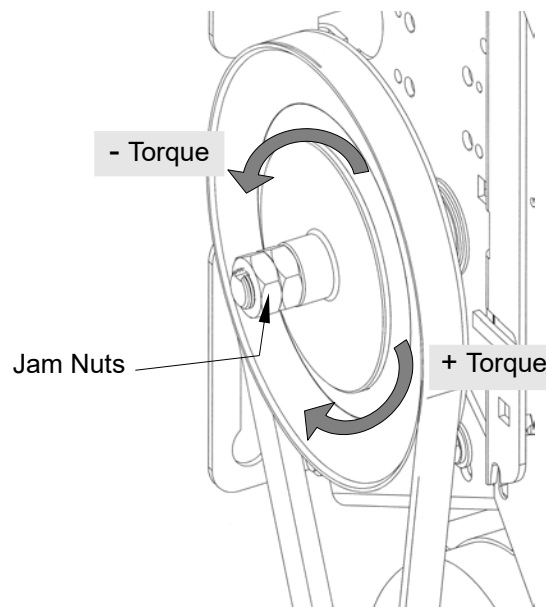

Figure 47 - Clutch Adjustment
1. Unlock the jam nuts with two (2) 15/16" keys, refer to Figure 47.